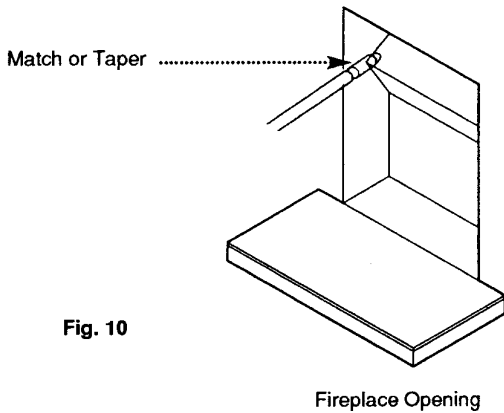

Fig. 10
5. If there is no positive airflow up the chimney **DO NOT FIT THE FIRE**. Seek expert advice before continuing with the installation. A positive flue pull can be detected by holding a lighted match or taper near to the fireplace opening (Fig. 10).